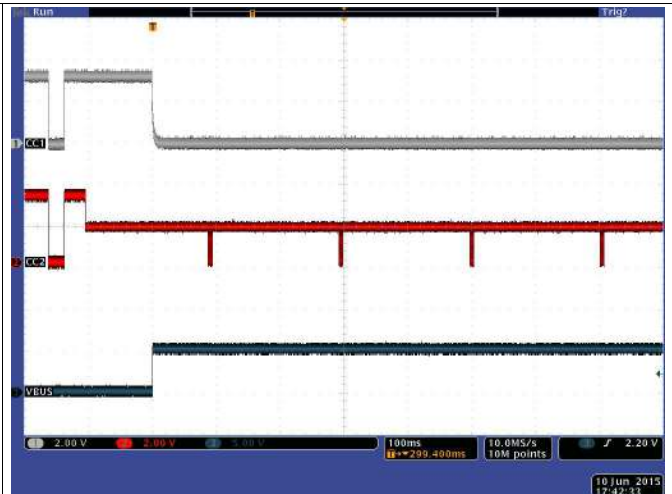

Figure 9. Type-C Connection and VBUS
- Verify that VBUS is reaching 5 V when connected (see Figure 9)